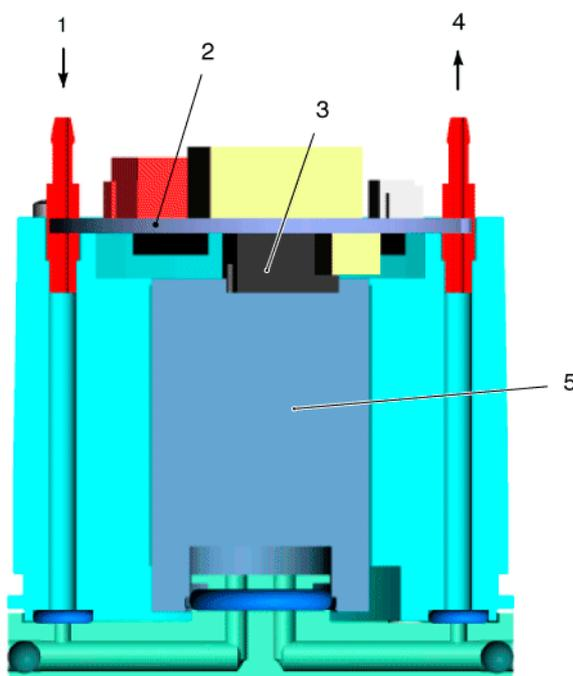

Figure 33 Layout of the OxyTrace oxygen measuring module
OxyTrace is an oxygen measuring module with a zero-consumption electrochemical cell (Figure 33). The cell (5) is located in an aluminium housing which also contains a pre-amplifier (2). The oxygen mixture to be measured is drawn in by the ILCA pump and flows through the aluminium housing to the sensor cell. As a result of the relatively long distance through the aluminium housing the gas is brought to cell temperature. The output signal from the pre-amplifier is transmitted for further processing to the MOPS PCB of the ILCA anaesthetic gas measuring module.
Table 5 Legend to Figure 33